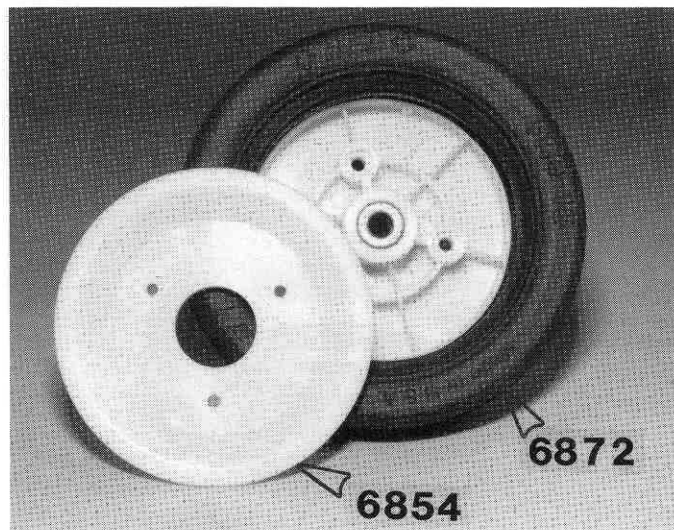

Fig. 150
□ **Fig. 150** Turn the tire over and install the inside half of the #6854 front wheel (large center hole). Make sure the screw holes are in line.